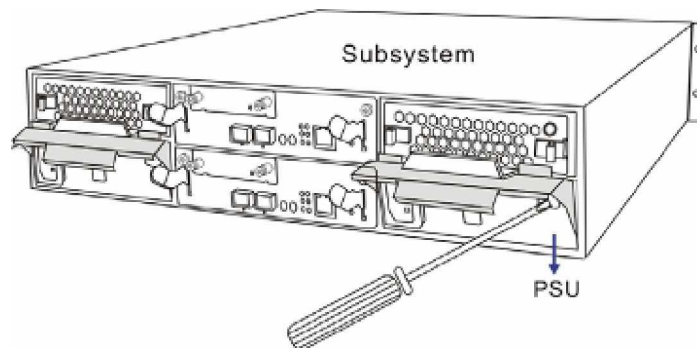

Figure 5-13: Removing the PSU Retention Screw
Step 3. Remove the PSU retention screw at the top right-hand side of the PSU. (See **Figure 5-13**)